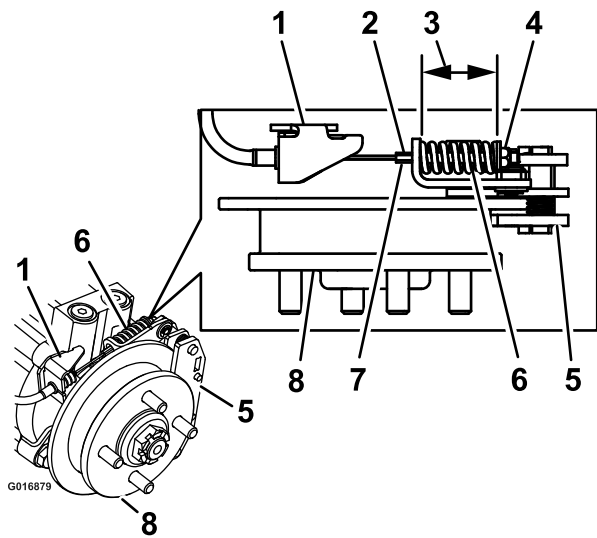

Figure 75
9. Hold the threaded rod end with a tool and adjust the lock nut until the spring length is between 3.8 and 4.0 cm (1-1/2 and 1-9/16 inches) (Figure 75). Do Not allow the cable to turn when the nuts are being loosened.